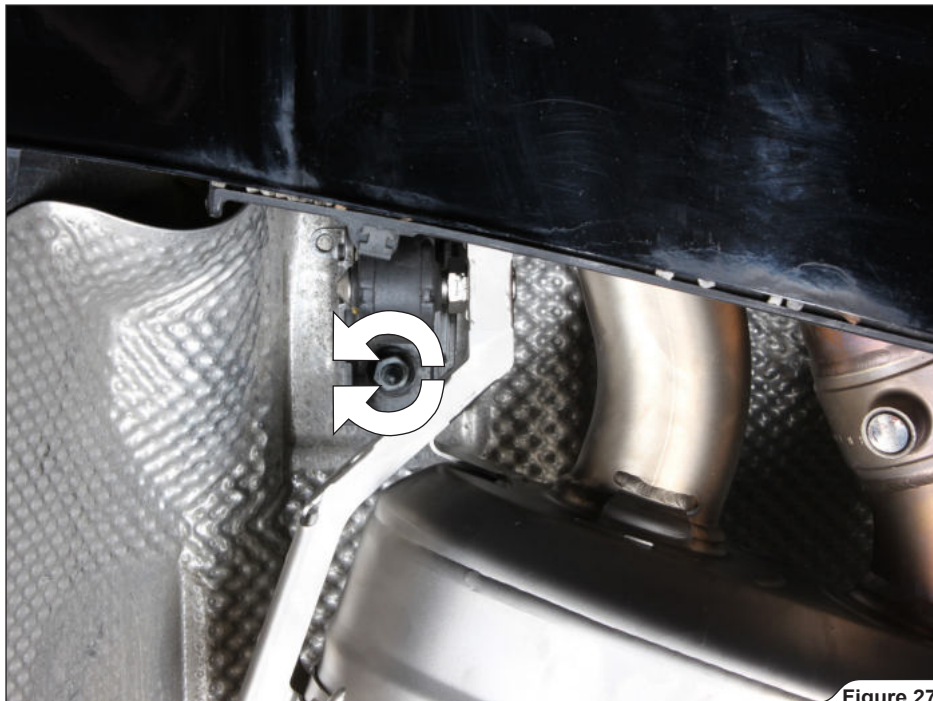

Figure 27
- Center the mufflers' outlet tubes in respect to the tail pipes (by slightly rotating the brackets) and tighten the rubber brackets to the chassis (**Figure 27, 28**).